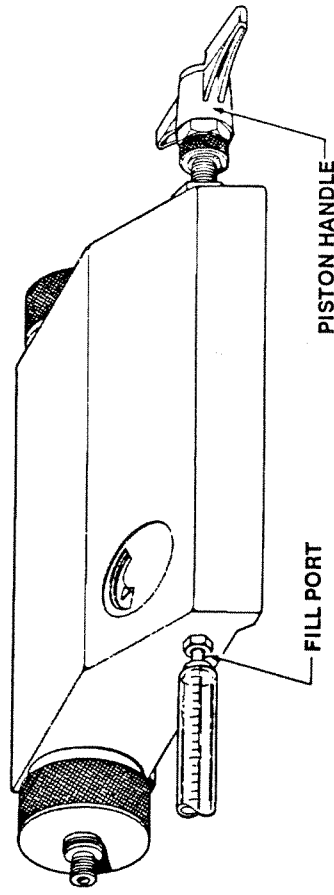

FIGURE 3-5 ADDING FLUID
1. Unscrew the piston until it stops (Figure 3-5).
2. Fill a 20-ml syringe with water. Applying firm but not excessive force, insert the end into the fill port (Figure 3-5), and fill the unit. The unit holds approximately 15 ml.